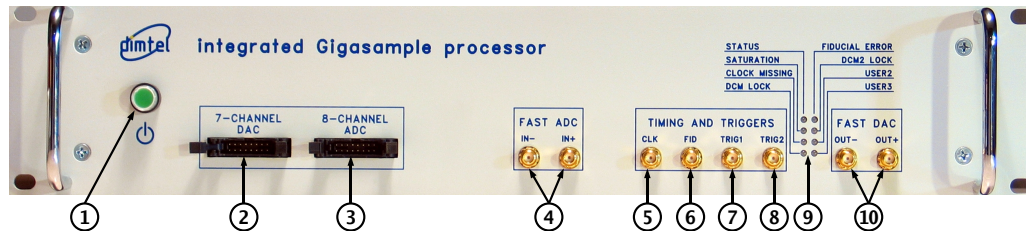

Figure 2: Front panel features
2. Connect RF clock at -3 dBm nominal level (Fig. 2, item 5);
3. Connect single-ended high-speed ADC input signal to **Ain+** (Fig. 2, item 4). The FS swing of this signal should be 190 mV peak-to-peak;
4. Connect a $50\ \Omega$ terminator to **Ain-** (Fig. 2, item 4);
5. Connect high-speed DAC output(s) (Fig. 2, item 10) to the appropriate back-end unit;
9. Push the power button (Fig 2, item 1) to turn on the system;
11. Push the power button (Fig 2, item 1) to turn the system off;
- Connect the 16-pin ribbon cable between the 7-channel DAC (Fig. 2, item 2) and the 8-channel ADC (Fig. 2, item 3);
- Connect 500 MHz clock to the RF clock input (Fig. 2, item 5);
- Terminate `Ain-` fast ADC input (Fig. 2, item 4);
- Terminate `Aout-` fast DAC output (Fig. 2, item 10);
- Make sure fiducial input is not driven (Fig. 2, item 6);